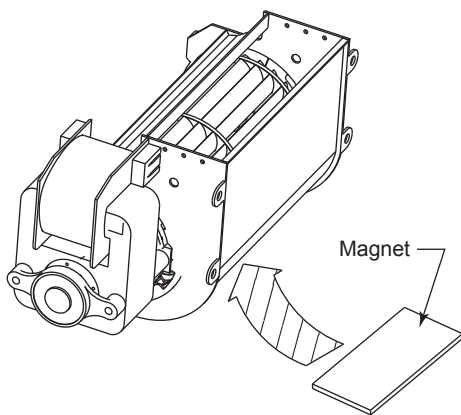

Figure 50 -
2. Remove glass frame by releasing the two (2) latches (500 Model has three (3) latches) below the firebox opening and lifting glass frame up and away from unit.
8. Two (2) magnetic strips have been supplied to secure each blower to the firebox floor. Place on bottom of each blower before installing. *Figure 50*